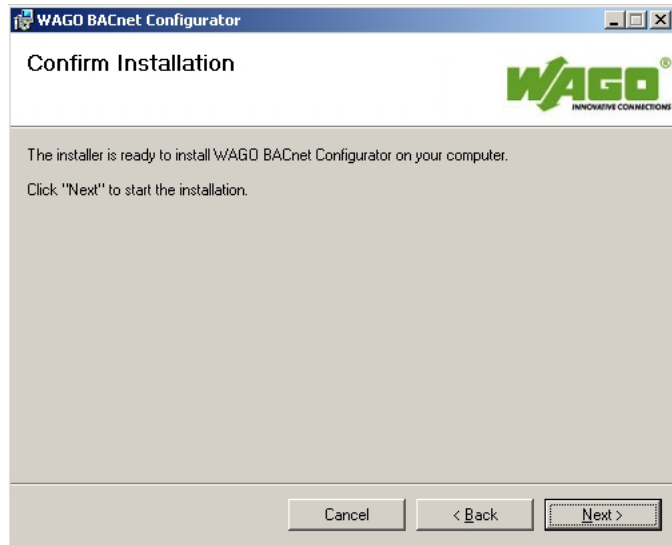

Fig. 2-4: Continue installation
5. Confirm further installation by clicking on [Next] (see Fig. 2-4).